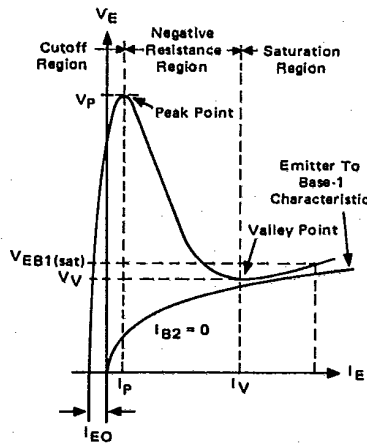

FIGURE 3 - V_{OB1} TEST CIRCUIT
3. Base-One Peak Pulse Voltage is measured in circuit of Figure 3. This specification is used to ensure minimum pulse amplitude for applications in SCR firing circuits and other types of pulse circuits.